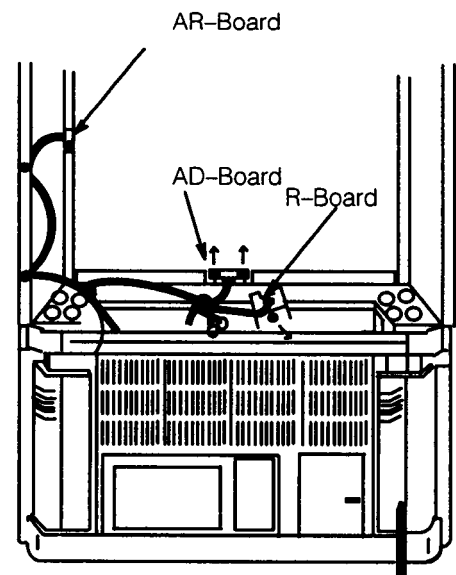

Fig. 21
2. Remove R-Board by removing a screw **Fig. 21** .
3. Remove AR-Board and AD-Board by removing (4) screws, and remove lead wires and bands from holders as necessary.